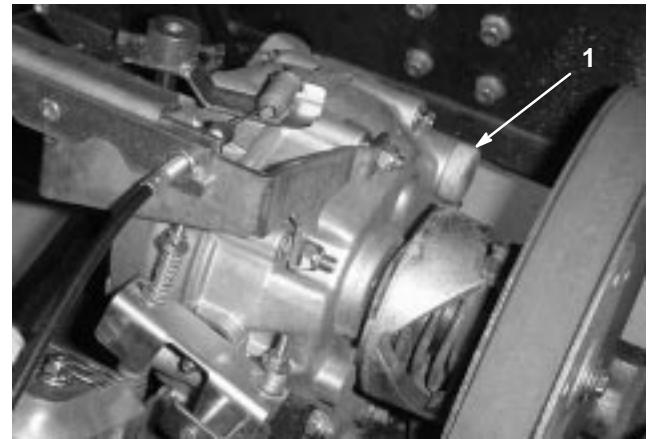

Figure 31
3. Fill the reservoir (Fig. 31) with approximately 1-1/2 qt. (1.4 liters) of SAE 10W30 motor oil or until the oil level is at the bottom of the level indicator hole (Fig. 30).